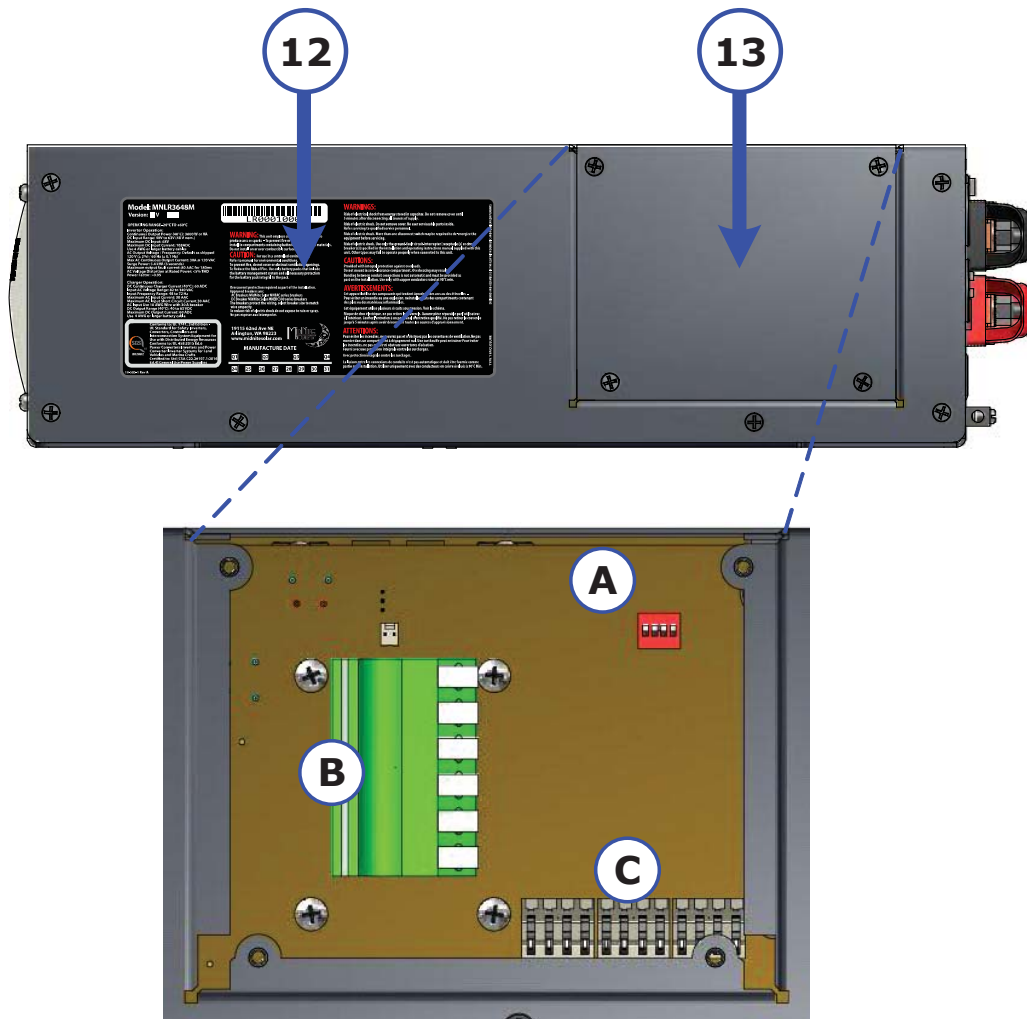

Figure 1-4, Left Side Features
- 13** **Access Cover** – removing this cover provides access to the internal components listed below. See Figure 1-4.